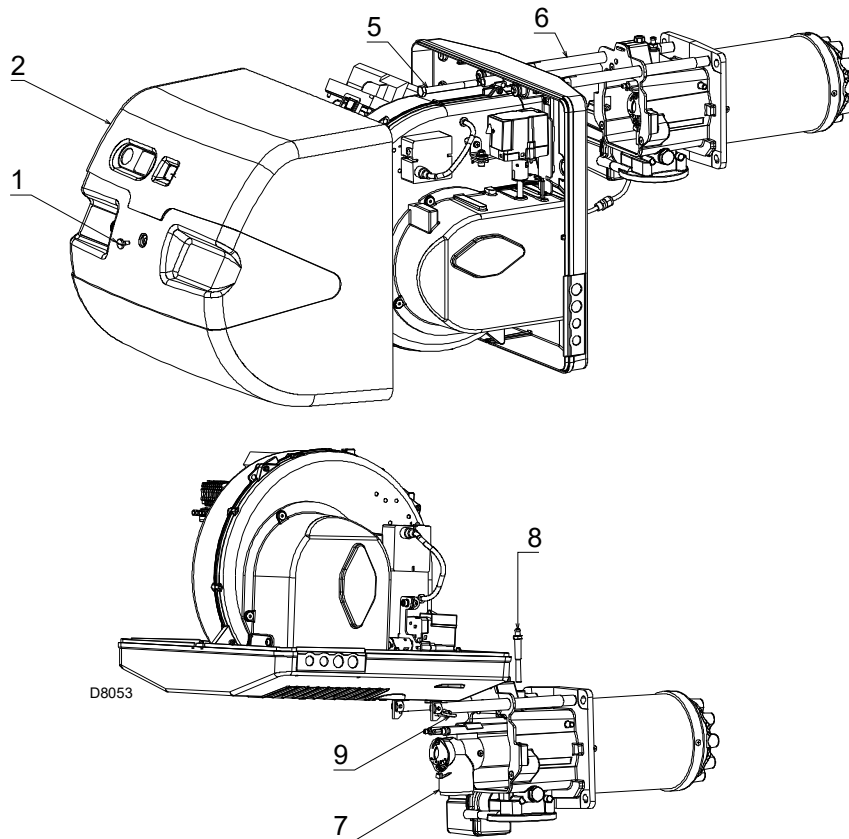

Fig. 34
- Loosen the screws 1)(Fig. 34) and remove the cover 2).
- Remove the split pin 9)(Fig. 34) and push the burner until it is approx. 100 mm from the pipe coupling.